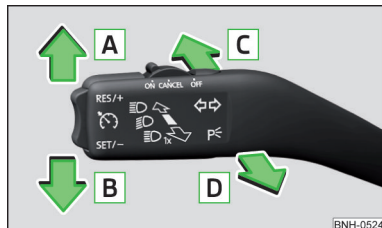

Fig. 40
- Slide the turn signal light lever (» Fig. 40 on page 60) downwards and hold it in this position.
- Slide the turn signal light lever (» Fig. 40 on page 60) upwards and hold it in this position.
### Lever positions » Fig. 40